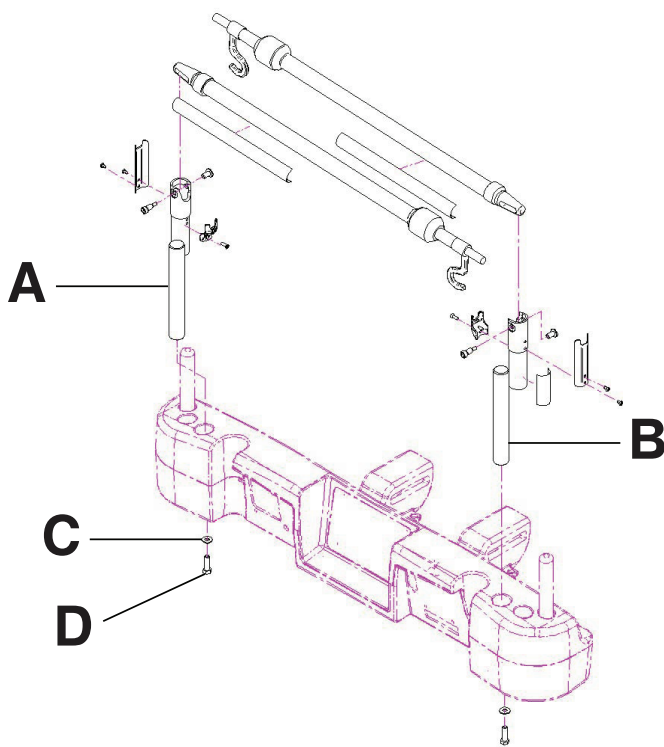

Figure 121: Dual two stage IV pole
1. Using a 3/8 in. drive ratchet and a 1/2 in. socket, install one washer (C) and one bolt (D) to secure the IV pole into the socket at the head end of the product (A) (Figure 121 on page 108).
2. Using a 3/8 in. drive ratchet and a 1/2 in. socket, install one washer (C) and one bolt (D) to secure the IV pole support into the socket at the head end of the product (B) (Figure 121 on page 108).